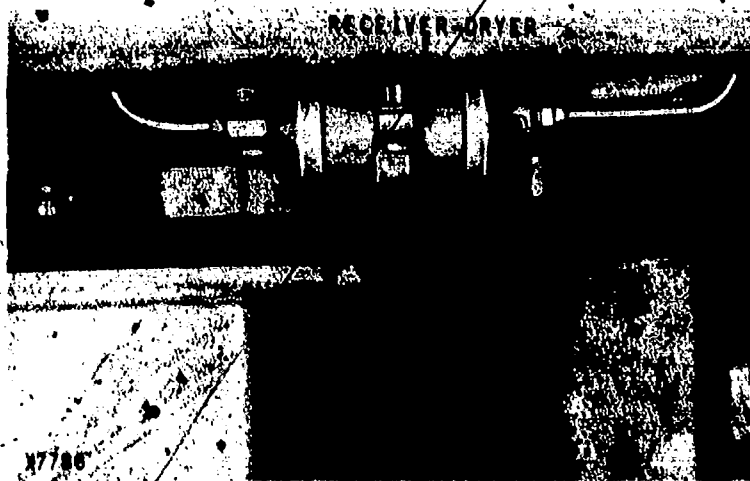

Fig. 84 — Sight Glass
7. Watch sight glass (Fig. 84) until bubbles disappear.
1. Watch for bubbles in sight glass (if used in system). See Fig. 84.